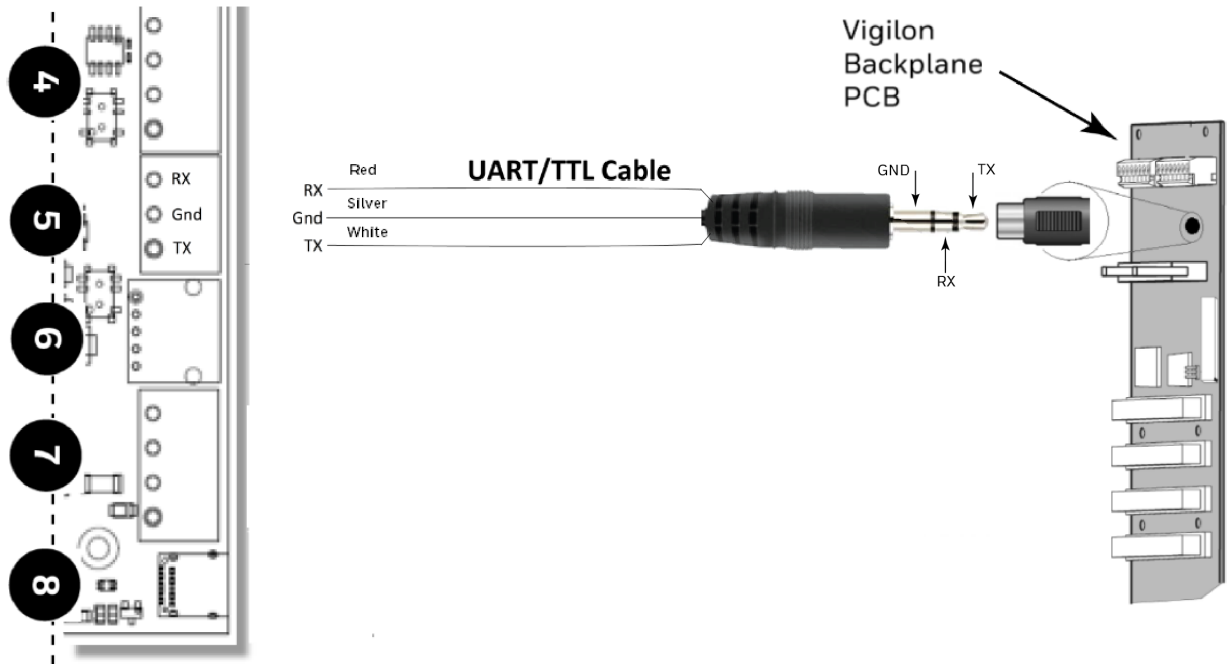

Figure C.19: Vigilon Panels: UART/TTL Connection
1. Within the panel, find the backplane PCB board (see Figure C.19).